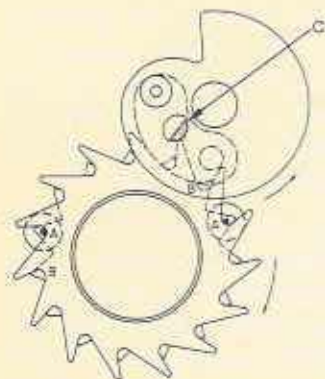

Figure 3. The teeth of the steel index wheel are situated directly over the permanent magnet pins at "A."
Figures 3, 4, 5, and 6 show the indexing-impulse sequence in detail. In Figure 3, the balance is moving counterclockwise. The gold side (C) of the gold-jewel pin has joined the platinum contact wheel's tooth. This causes the balance to be electro-magnetically impulsed in the same (continuing) direction. Notice also that in this position the star-pointed teeth of the steel index wheel are situated directly over the permanent magnet pins shown at position A. As the balance continues to move, the gold pin causes the contact wheel to move a bit in the clockwise direction.